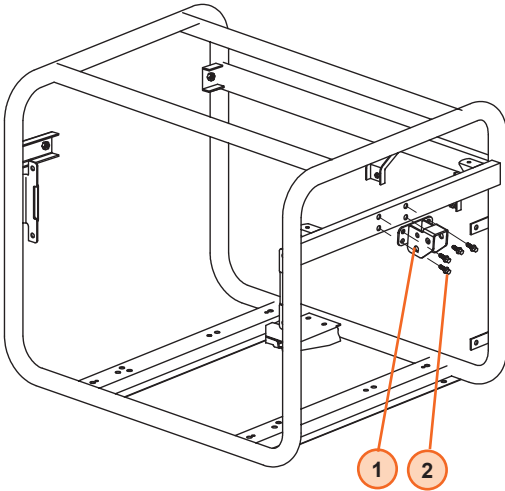

Figure 3
Step 1. Installing the handle bracket (see Figure 3):
1. Mount the handle bracket (1) to the generator frame by lining up the holes in the bracket with the pre-drilled holes in the frame. Secure with hex bolts (2) in 4 places.